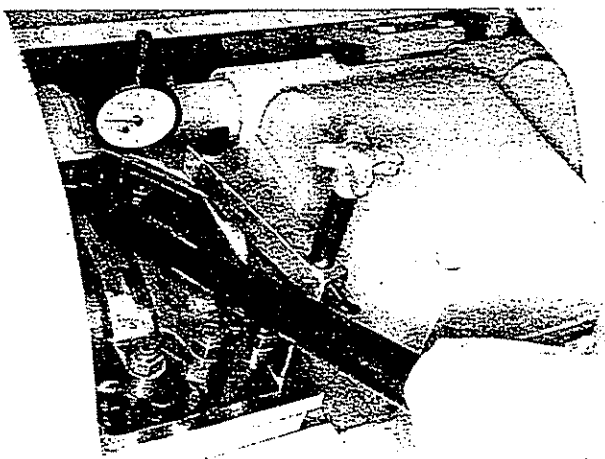

Fig. 2-63, (K21921). Bottoming injector plunger in cup
3. Using the rocker lever actuator, Fig. 2-63, depress the lever toward the injector until the plunger is bottomed in the cup to squeeze the oil film from the cup. Allow the injector plunger to rise, bottom again, hold in the bottom position and set the